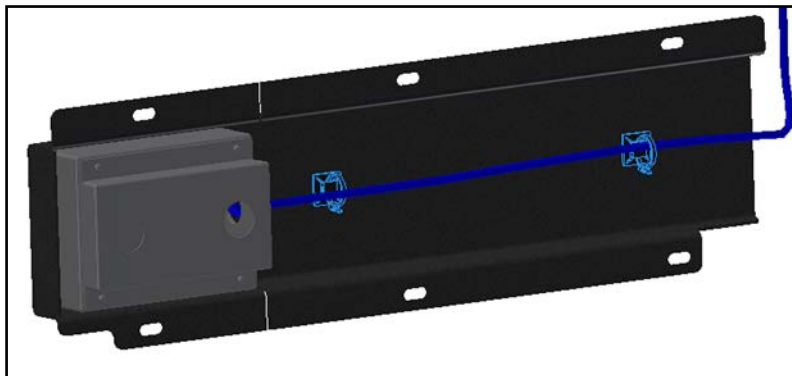

Figure 4 - Sensor Cable Routing
- 1.8. Route the electrical cable and secure with G5007993 cable ties as needed. You may have too many. Dispose of unused cable ties. See Figure 4.